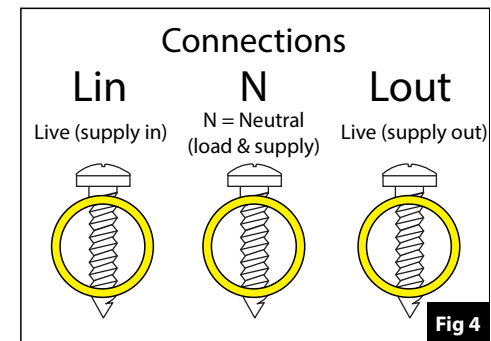

Fig 4
5. With the supply and load wiring hanging through the hole in your ceiling, connect the Live in, Live load and Neutral wires according to the colour code above and the markings next to the terminals. (See fig. 4 opposite).